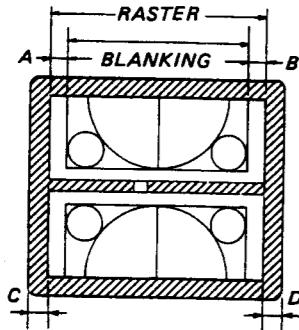

Fig. 23-1
3. Adjust RV1 and RV7 on the DA board so that the raster can all be seen by RV1 and RV7 as shown in Fig. 23-1.
4. Adjust RV26 on the DA board so that the outside portions of the raster become equal to at the right and the left sides as shown in Fig. 23-1.